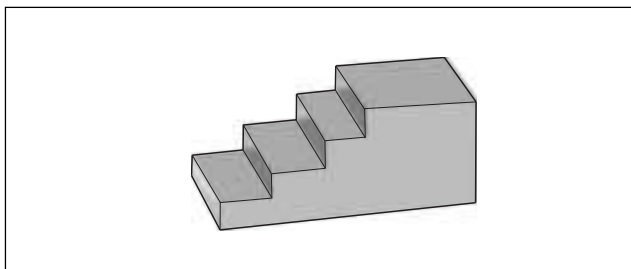

Figure 6-29. Primary Drive Locking Tool (Part No. HD-41214)
13. See Figure 6-29. Obtain the PRIMARY DRIVE LOCKING TOOL (HD-41214) and proceed as follows: